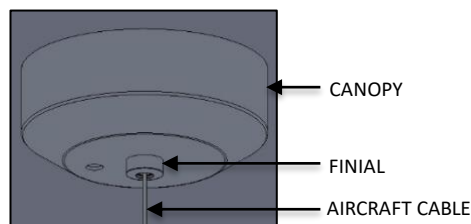

FIG. 14 –CANOPY INSTALLATION
5. Loosely secure CANOPY to the ceiling by threading the FINIAL to the mounting bracket assembly as shown below in Fig. 14.